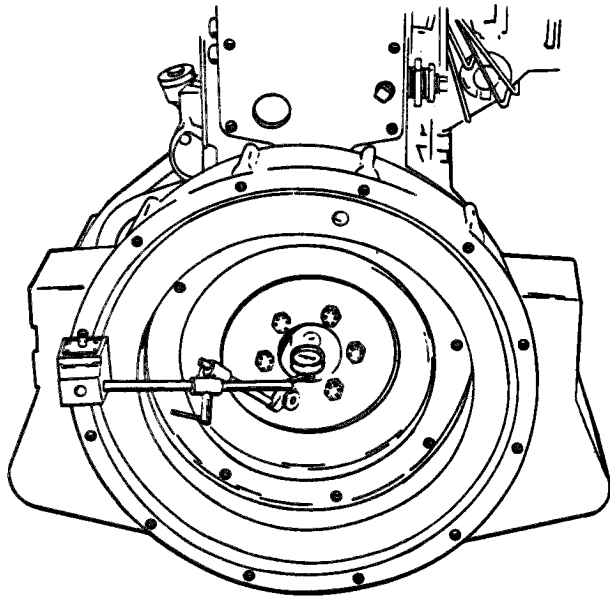

Figure 3-21. Indicating Flywheel Pilot Bore
- c. Attach indicator, as shown in figure 3-21, to check concentricity of pilot bore. This should not exceed 0.005 inch total indicator reading.
h. Check concentricity of bellhousing in relation to flywheel (figures 3-21 and 3-22).